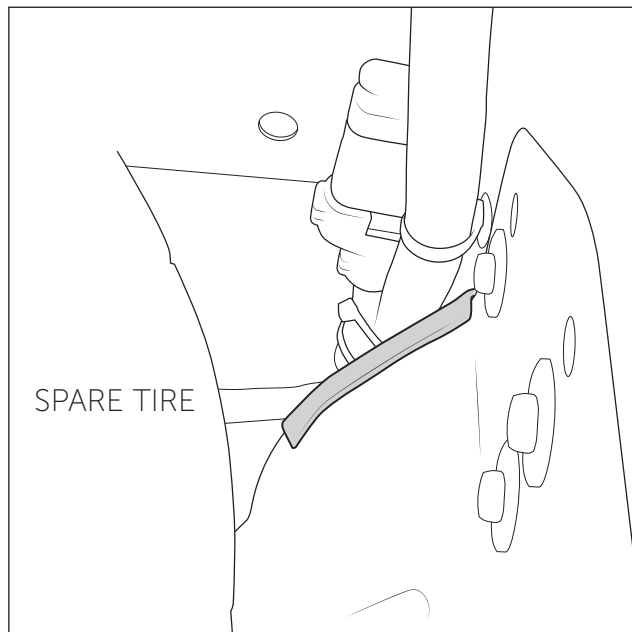

Figure 31
- B. Reinstall the heat shield and install the supplied section of edge guard onto edge of spare tire exhaust heat shield in the area the wires are closest (fig. 31). Failure to do this could allow the harness to be damaged by the edge of the heat shield.